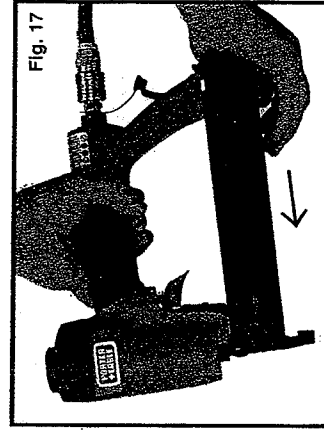

Fig. 17
4. Push magazine cover closed, see Fig. 17.